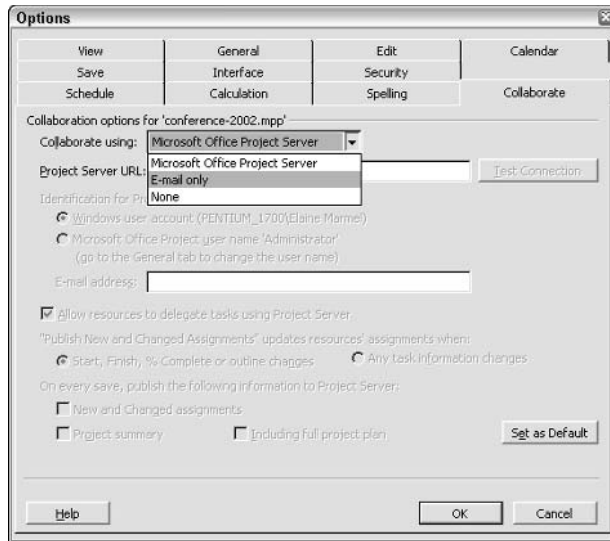

Figure 16-6: To use e-mail for workgroup management, set the collaboration options to E-mail only.
2. Click the Collaborate tab to select it, as shown in Figure 16-6.